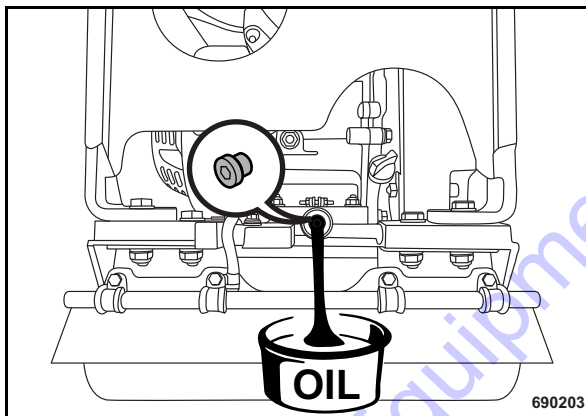

Fig. 51
- Unscrew the oil drain plug and catch any oil running out (Fig. 51).